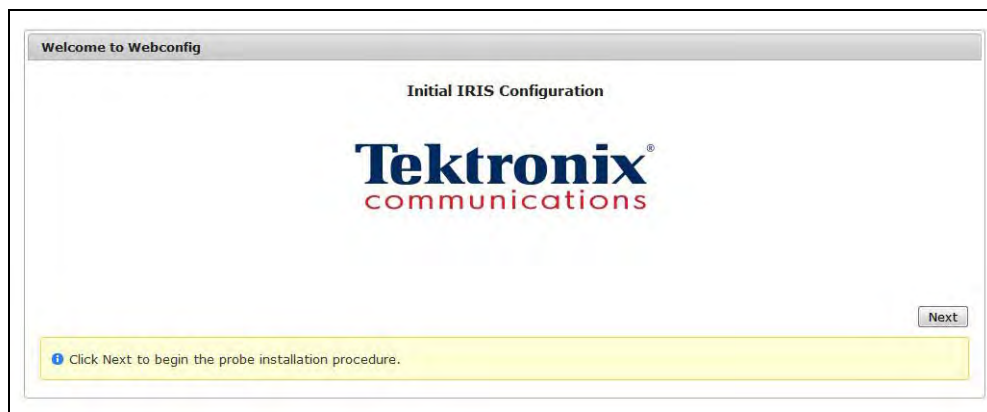

Figure 4.11 - Probe Installation GUI
5. The following Web page appears (Figure 4.11). Click the **Next** button.